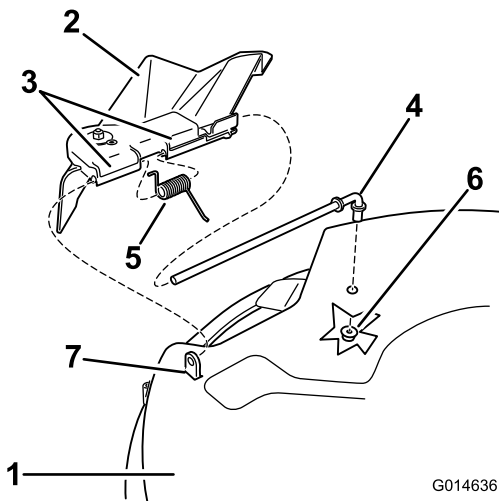

Figure 58
1. Locate items shown in Figure 58.
2. Remove the nut (3/8 inch) from the rod under the mower (Figure 58).
3. Slide the rod out of the short stand-off, spring, and grass deflector (Figure 58).
5. Replace the grass deflector (Figure 58).
7. Place the spring on the rod, with end wires down, and between the grass deflector brackets. Slide rod through second grass deflector bracket (Figure 58).
9. Secure rear end of rod into the mower with a nut (3/8 inch) as shown in Figure 58.